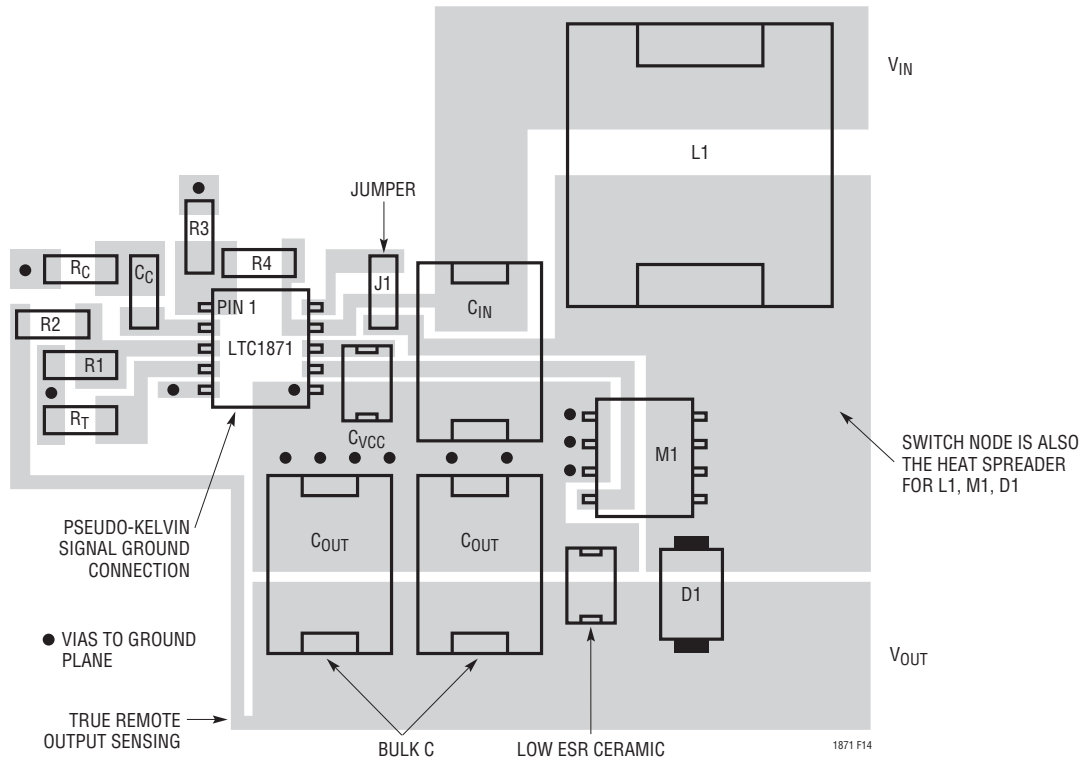

Figure 14. LTC1871 Boost Converter Suggested Layout
6. Place the small-signal components away from high frequency switching nodes. In the layout shown in Figure 14, all of the small-signal components have been placed on one side of the IC and all of the power components have been placed on the other. This also allows the use of a pseudo-Kelvin connection for the signal ground, where high di/dt gate driver currents flow out of the IC ground pin in one direction (to the bottom plate of the INTV_{CC} decoupling capacitor) and small-signal currents flow in the other direction.